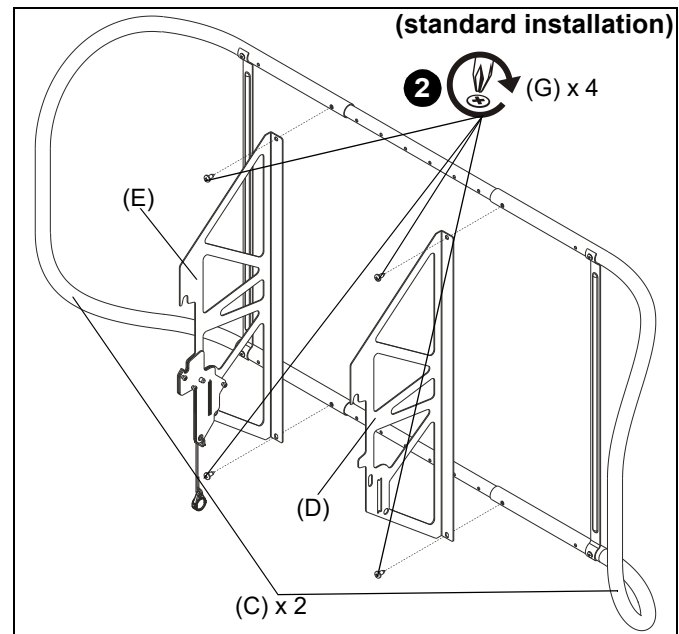
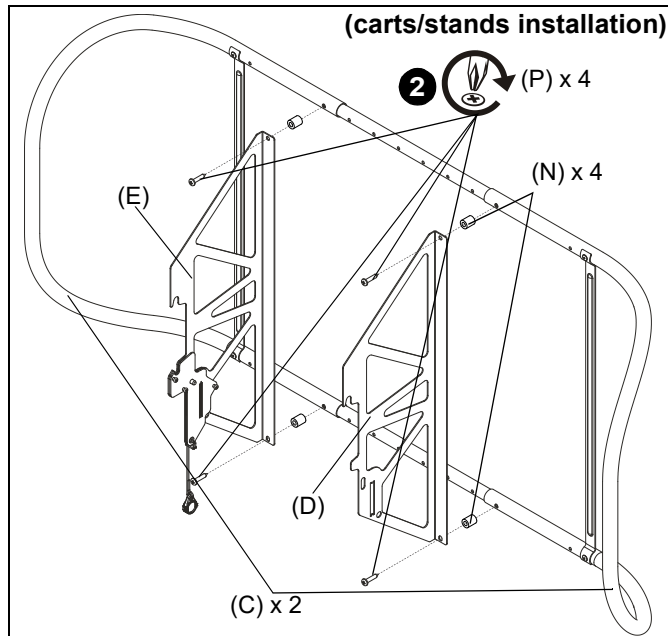

Figure 4
Figure 5
2. Use four #12-24 x 3/8" Phillips tapping screws (G) to secure two uprights (D and E) to two outside frames (C). (See Figure 4) If installing to cart or stand, use #12-11 x 1 1/4" Phillips tapping screws (P) instead and four 3/4" spacers (N) to create more space for back of cart/stand. (See Figure 5)